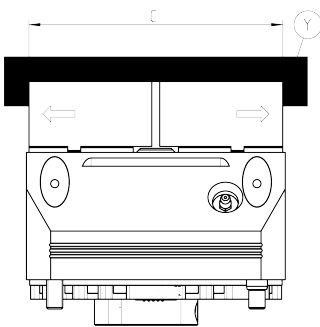

Fig. 4: Clamping force block with workpiece "clamped" – Teach position 2, I.D. clamping
- Determine the dimension C in units of (mm) using a suitable measuring device (e.g. measuring caliper), see Figure 4, and write this as the new value of the acyclic parameter "Teach position 2 – jaw (measured jaw opening width)" to index 103.